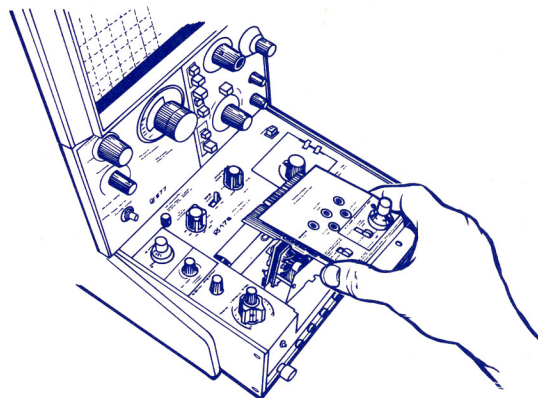

Figure 0-4. Installing regulator test unit into 178.
- 4) Insert regulator test unit — Lower unit vertically into front of 178, then slide toward rear. See Figure 0-4.